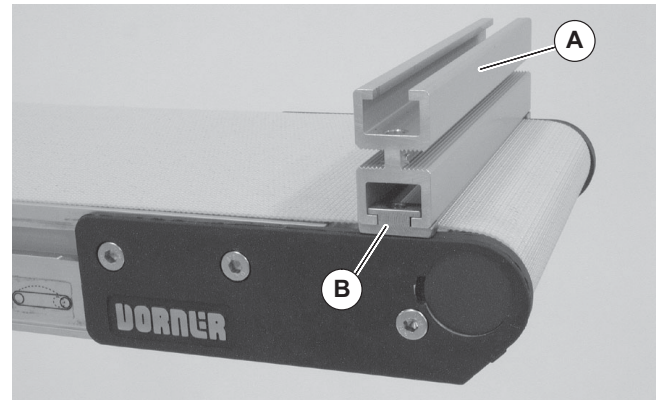

Figure 5
7. Insert spacer (Figure 5, item B) in both ends of end stop (A).